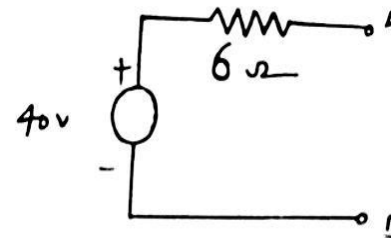
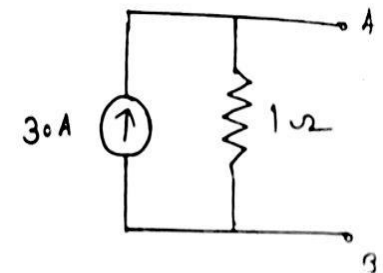

Fig. No. 3
Fig. No. 4
- 4) Convert given voltage source of Fig. no. 3 into equivalent current source and given current source of Fig. no. 4 into equivalent voltage source.